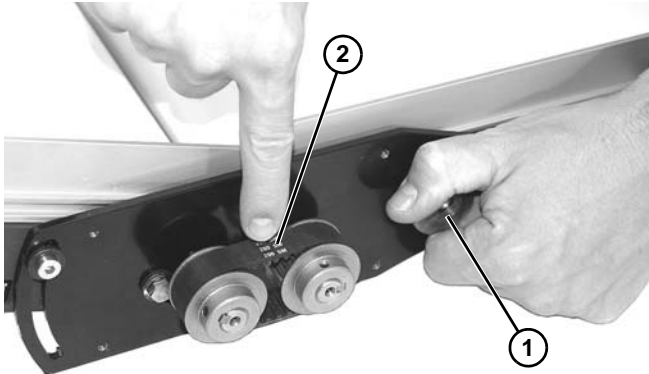

Figure 22
12. Rotate cam knob (Figure 22, item 1) to obtain 1/8 - 1/4" belt deflection at center of belt (Figure 22, item 2) with approximately 3-5 in-lb of pressure.